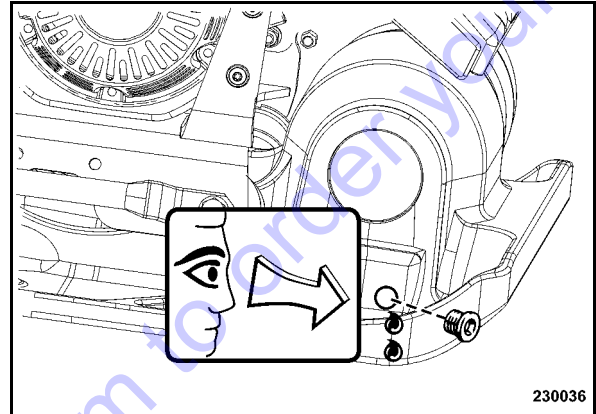

Fig. 55
- Unscrew the plug (Fig. 55) and check the oil level.